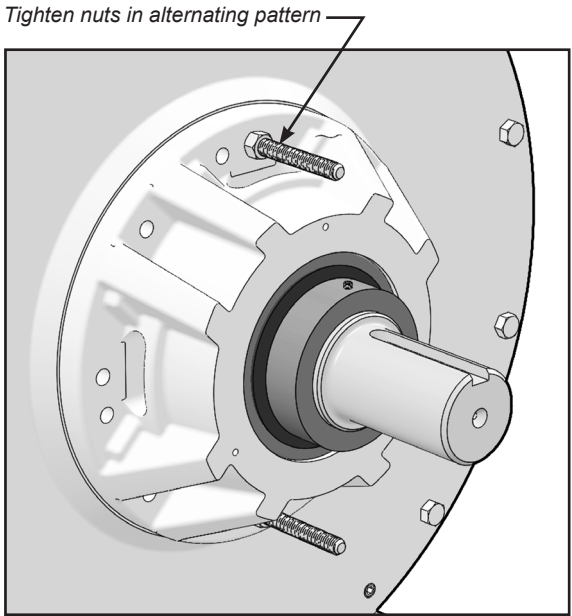

FIGURE 18
- 25. Using the all thread, tighten each nut in an alternating pattern to prevent binding using a deep socket (Figure 18).